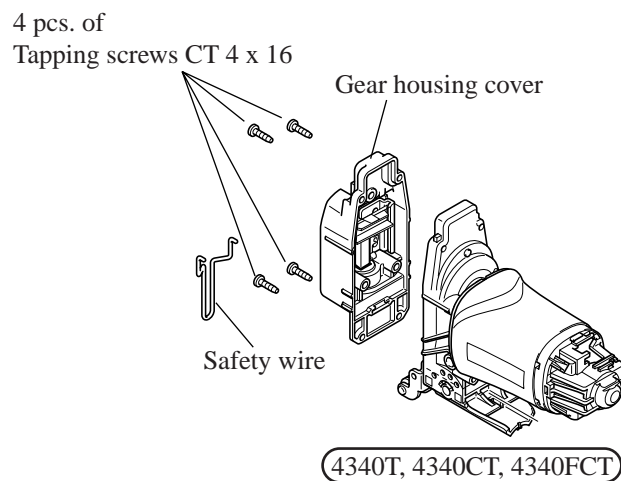

Fig. 5
1. After taking off safety wire from gear housing cover, unscrew 4 pcs. of tapping screws CT 4 x 16. Then, gear housing cover can be separated from gear housing. See Fig. 5.